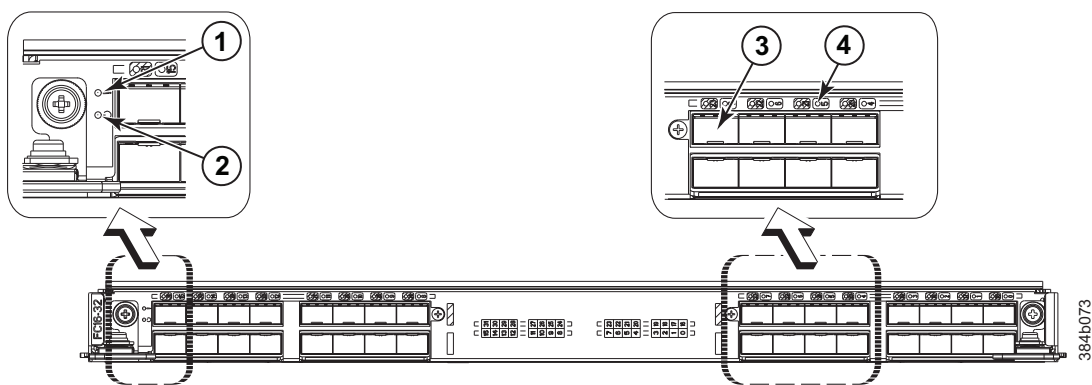

Figure 19. FC16-32 port blade
- Figure 19 illustrates the FC16-32 port blade